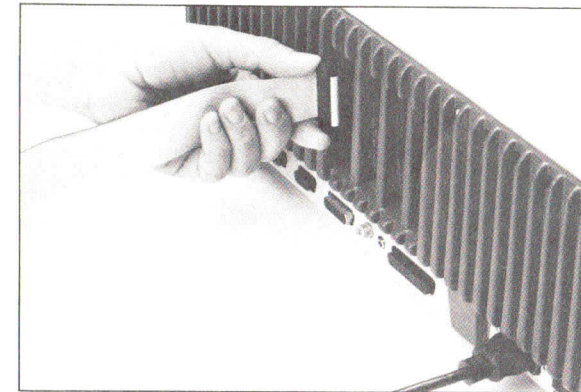
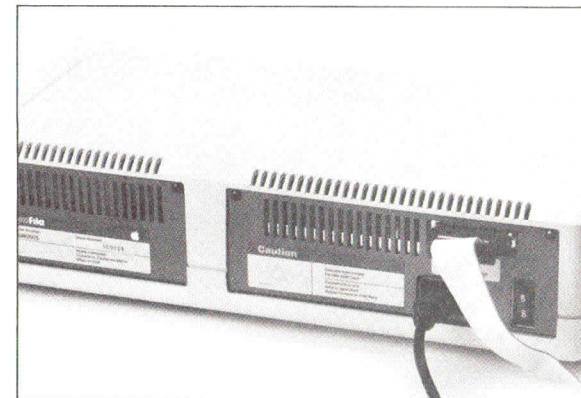

Figure 2-6. Connecting the Interface Cable to the Apple III
Figure 2-7. Connecting the Cables to the ProFile Drive
- 11 Figure 2-6 Connecting the Interface Cable to the Apple III
- 11 Figure 2-7 Connecting the Cables to the ProFile Drive
Notice that the D-type connector on the edge of the ProFile interface card protrudes slightly through the vertical access slot. Attach one end of your cable to this connector as shown in Figure 2-6. (The connector can go on in only one direction because of its shape.) As you make this connection, be sure you do not loosen the interface card from its slot in the Apple III. Attach the other end of the cable securely to the D-type mating connector on the back of the ProFile cabinet (see Figure 2-7). If your cable connectors have captive screws, tighten them down until the connection is secure.
Connect the mating plug on the power cord into the recessed 3-pin AC power connector (Figure 2-7) on the back of the ProFile cabinet (the plug can go on in only one direction). Next, carefully connect the other end of the power cord to the AC power receptacle. Your system is now completely connected and is ready to be powered up.